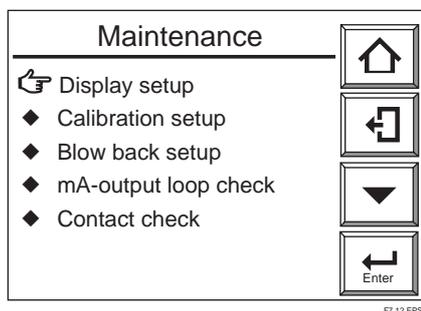
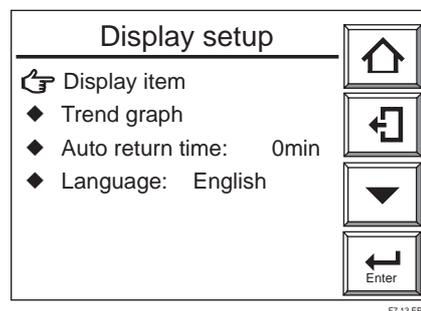

Figure 7.12 Maintenance Panel Display
Figure 7.13 Display Setup
- (1) Press the Setup key in the basic panel display to display the Execution/Setup display. Then select Maintenance in the Execution/Setup display.
- (2) Select the Display setup from the Maintenance panel display (Figure 7.12). The Display setup display (Figure 7.13) then appears.